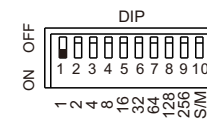

Fig.5
- (1) When SW10 is OFF (slave machine state), SW1-9 are used to indicate the DMX address, and the remote control function is invalid.
- (2) When all the slave machines have the same DMX address of 001 (shown in Figure 5), they will work synchronously with the master machine.